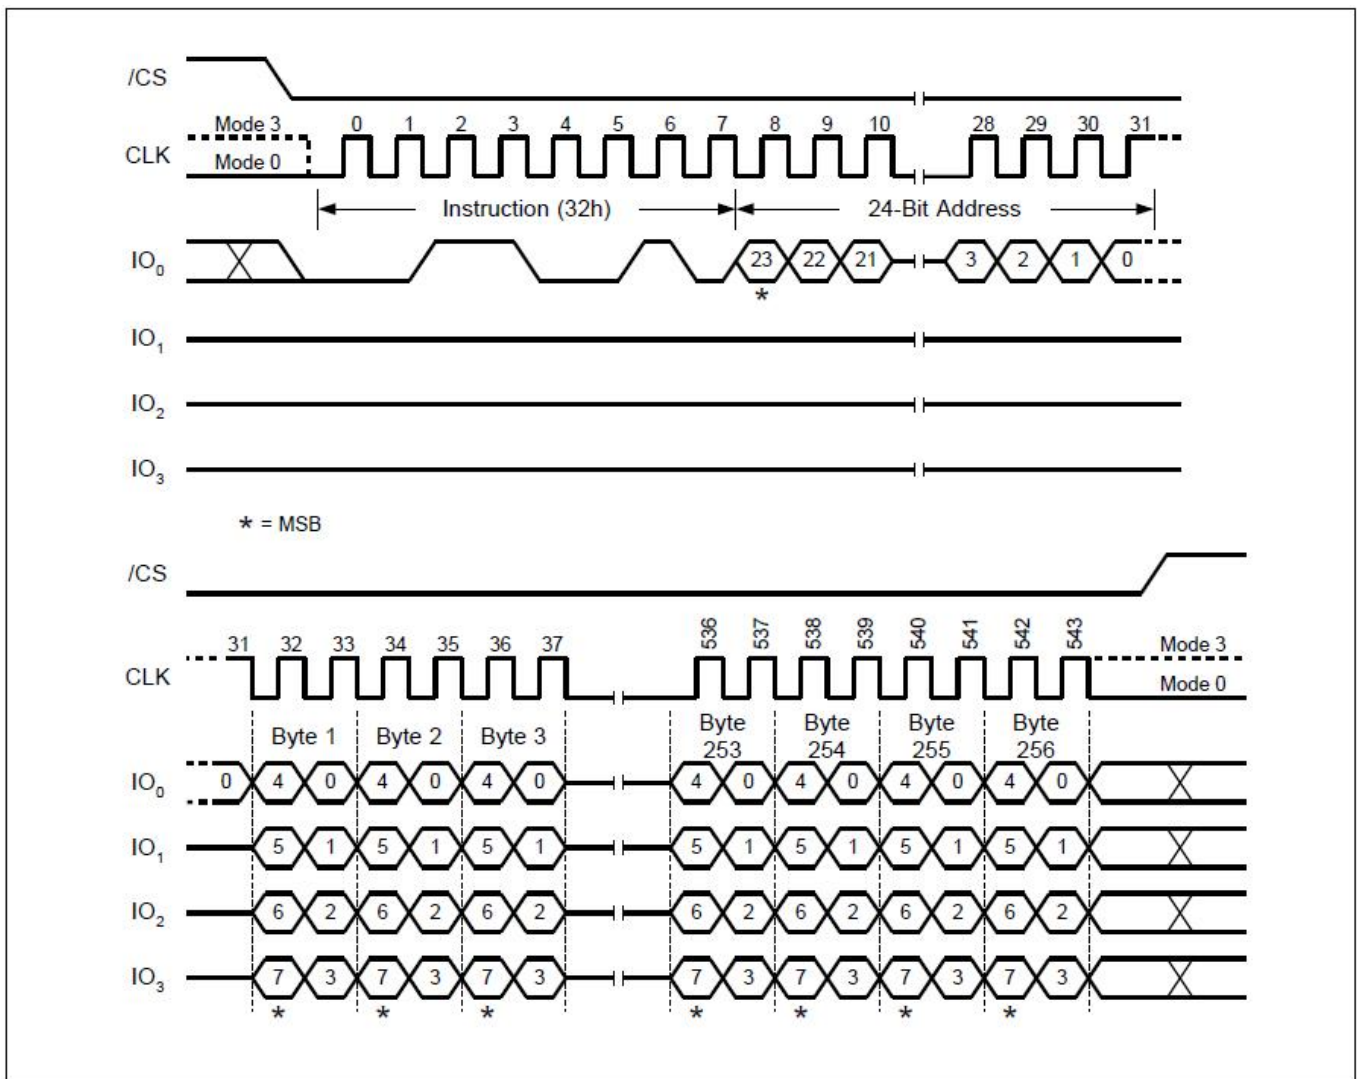

Figure 17 Quad Page Program Sequence Diagram
To use Quad Page Program the Quad Enable (QE) bit in Status Register-2 must be set to 1. A Write Enable instruction must be executed before the device will accept the Quad Page Program instruction (Status Register-1, WEL=1). The instruction is initiated by driving the /CS pin low then shifting the instruction code “32h” followed by a 24-bit address (A23-A0) and at least one data byte, into the IO pins. The /CS pin must be held low for the entire length of the instruction while data is being sent to the device. All other functions of Quad Page Program are identical to standard Page Program. The Quad Page Program instruction sequence is shown in Figure 17.